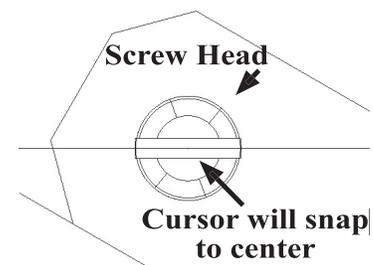

Fig. 64
Step 7. Click the screw head solid, **Fig. 64**.
Step 10. Click the center of the screw head, **Fig. 64**.